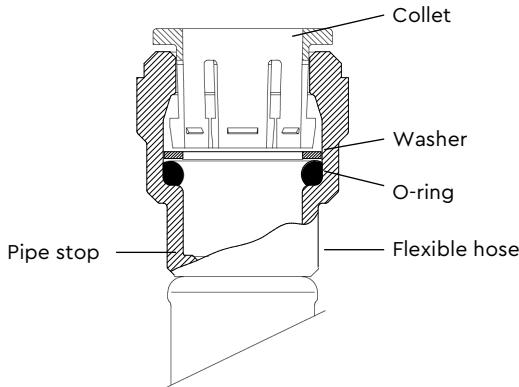

Figure 10
- Check in the mouth of the fitting that the 'O'-ring, nylon washer and collet are in position as shown in Figure 10.